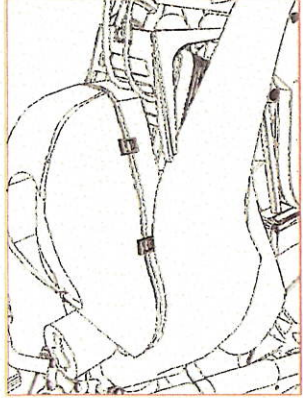

Figure 6
4. Undo the clips and remove the airbox lid and filter. (Figure 6)